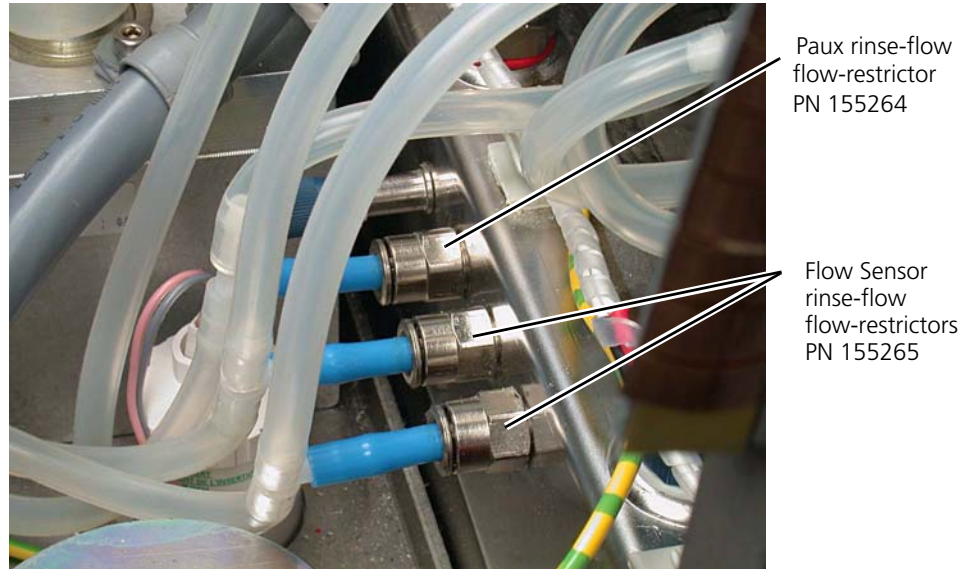

Figure 11-223. The three flow restrictors for the Flow Sensor rinse flow, and the Paux rinse flow
- Figure 11-223, *The three flow restrictors for the Flow Sensor rinse flow, and the Paux rinse flow*, on page 11-202
- Figure 11-223 shows the Paux and Flow Sensor rinse-flow flow-restrictors
(Figure 11-223 on page 11-202 and Figure 11-228 below.)